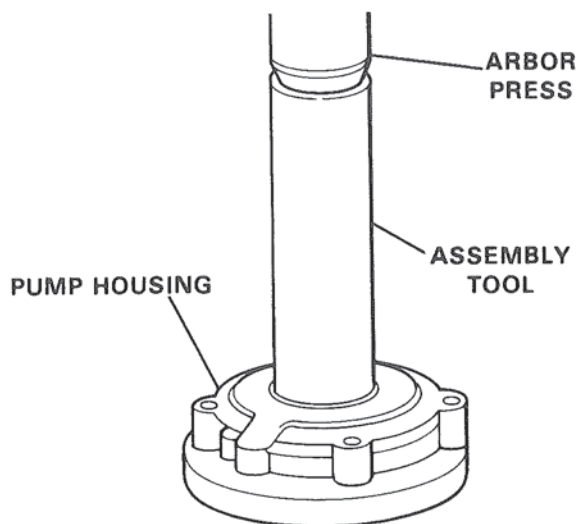

Figure 118. Installing Oil Seal.
1. The pump assembly for the Model 72 transmission (71-A60) contains a different seal than the pump assembly with backing plate for the Model 72C (71-1A60). They are identical in all other respects, with the exception that the seal should be pressed into the pump housing until front face of seal is 1/8 in. (3.2 mm) above front face of pump housing. Figure 118.